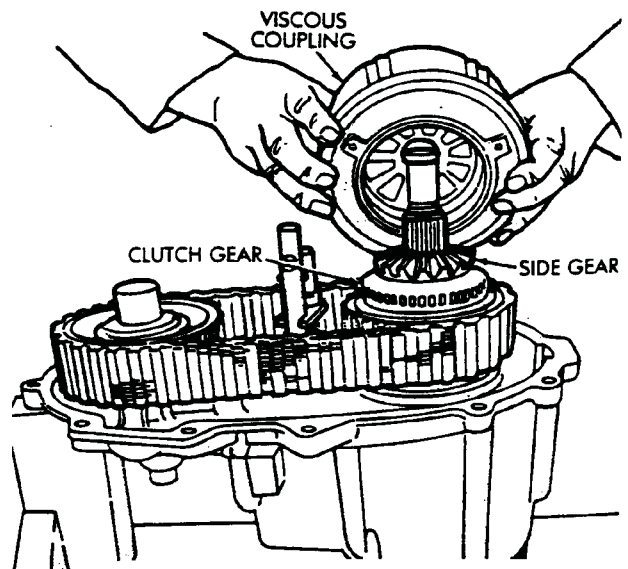

Fig. 4-61 Install Viscous Coupling
58. Install the viscous coupling (Fig. 4-61). Seat the coupling on the side and clutch gears.